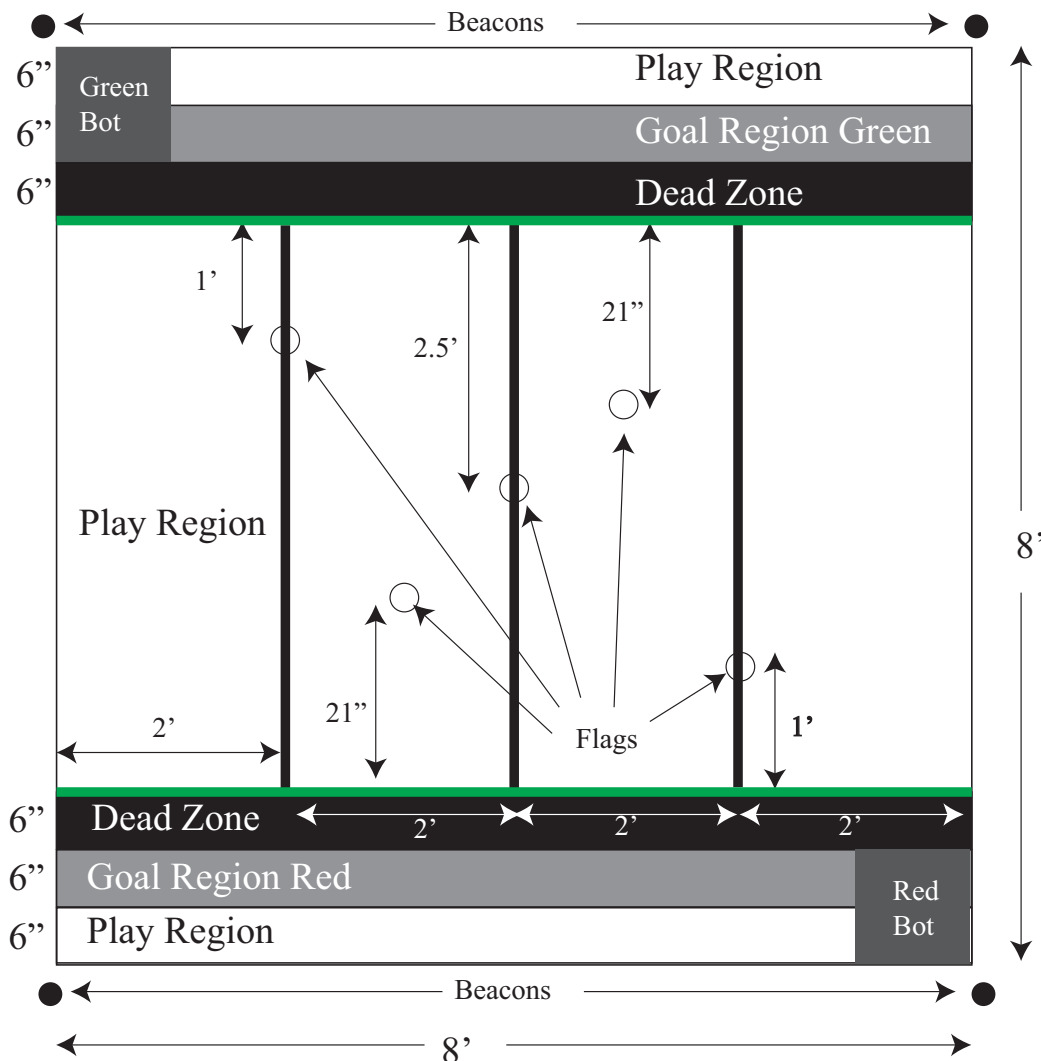

Fig. 1 Top View of Playing Field
- The total playing field measures 8'x8'. The field is divided into seven regions. There is a large central play region that on two sides (at the top & bottom of Fig. 1) is adjacent to a pair of dead zones. The dead zones are followed by the goal regions which are in turn followed by another pair of play regions. The playing field is bounded by a 3-1/2" high wall.
- The game is a head-to-head match up between Robots as they attempt to move the flags into their goal region. The initial positions of the Robots on the field will be as shown in Fig. 1.
- At the beginning of each game, the flags will be placed as shown in Fig.1.